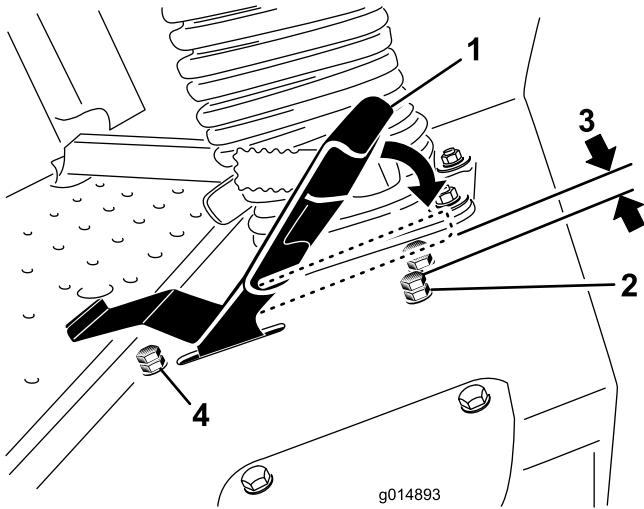

Figure 40
3. Loosen the jam nut on the stop bolt for the traction pedal (Figure 40).